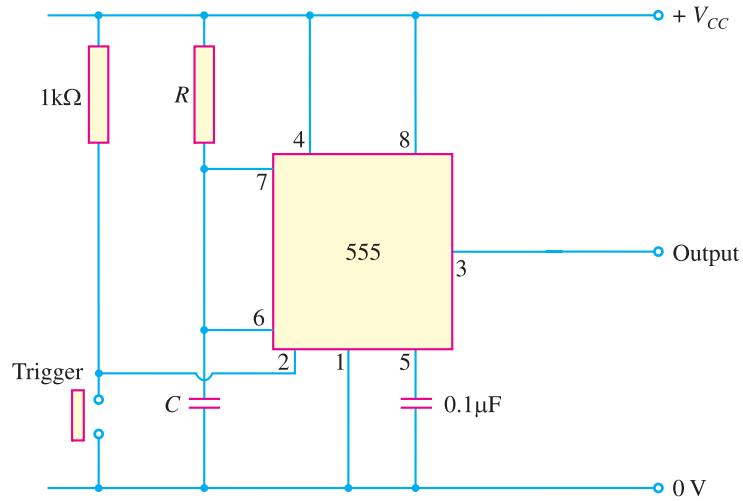

Fig. 23.17
**(iii) The 555 Timer as monostable multivibrator.** Fig. 23.17 shows the circuit of the 555 timer as a monostable multivibrator. The  $R$  and  $C$  are the external components whose values determine the time  $T$  (in seconds) for which the circuit is on. This time is given by ;
**Example 23.2.** The monostable multivibrator like the one in Fig. 23.17 has the values of  $R = 1.2 \text{ k}\Omega$  and  $C = 0.1 \mu\text{F}$ . Determine the time  $T$  for which the circuit is on.